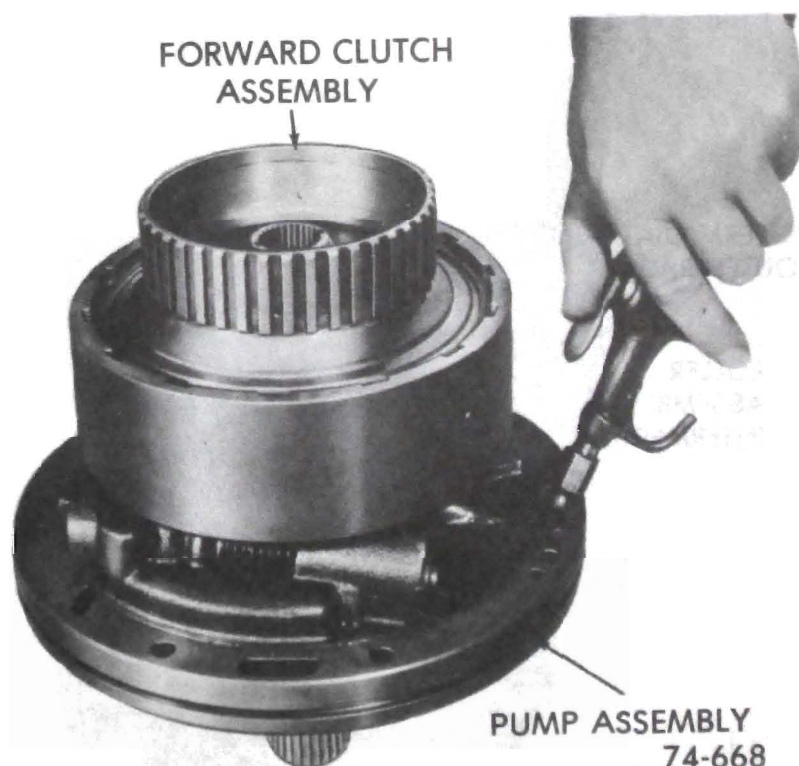

Figure 76-194
12. Place forward clutch housing on pump delivery sleeve and air check clutch operation. See Figure 76-194.